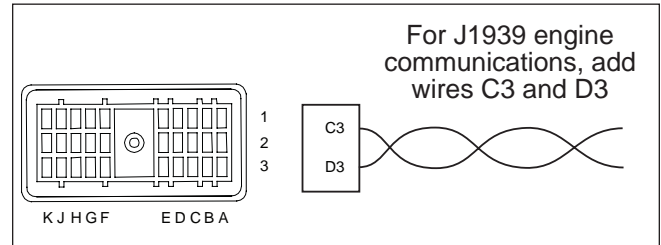

FIGURE 2 - WIRING DIAGRAM FOR J1939 CONNECTION
2. Make the connections to the vehicle per the wiring diagram - See Figure 2.